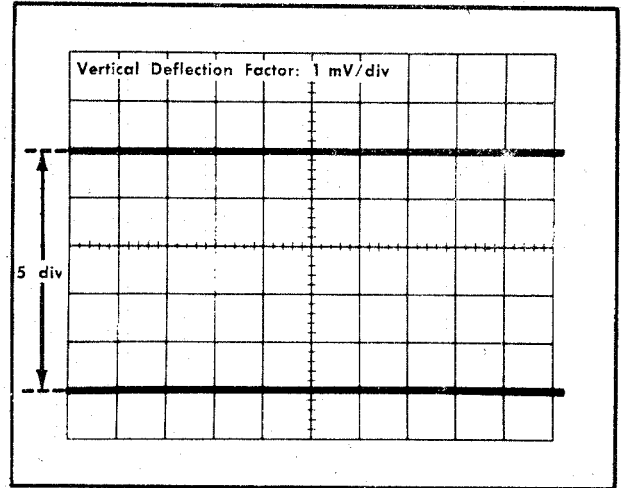
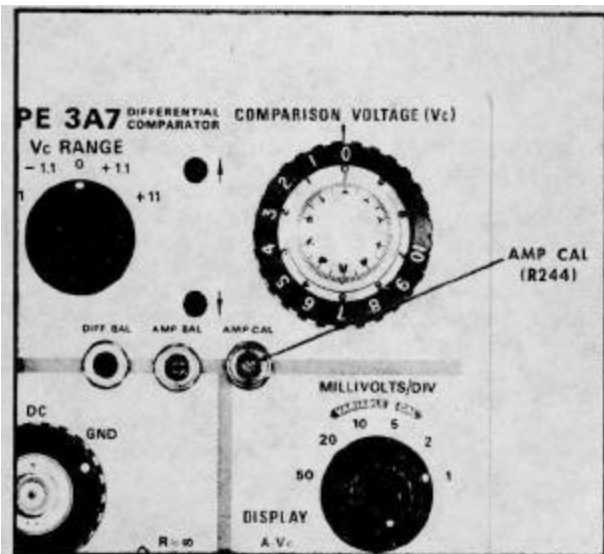

Fig. 5-16. Typical crt display showing correct gain adjustment.
Fig. 5-15. Location of step 13e adjustment.
e. Adjust the front-panel AMP CAL control (see Fig. 5-15) so the vertical deflection of the display is exactly 5 div peak to peak (see Fig. 5-16).